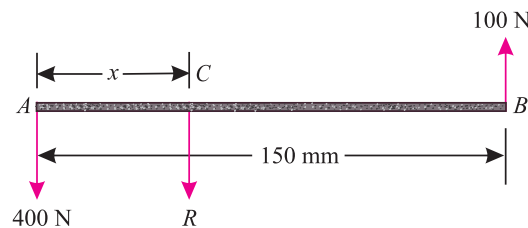

Fig. 4.4.
**Solution.** Given : The system of given force is shown in Fig. 4.4